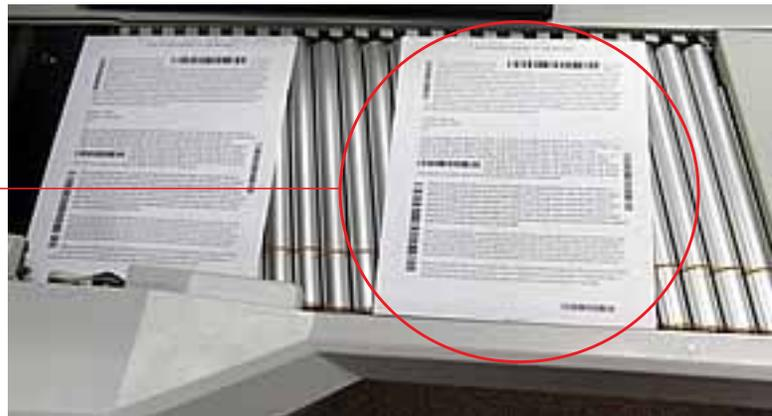

Figure 12: Ideal drop area
- 2 Place the first item onto the conveyor as shown in Figure 12.